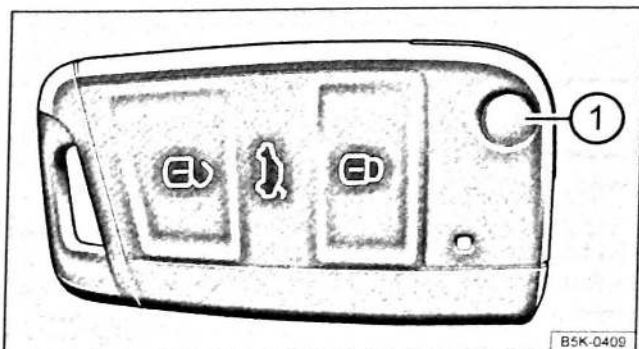
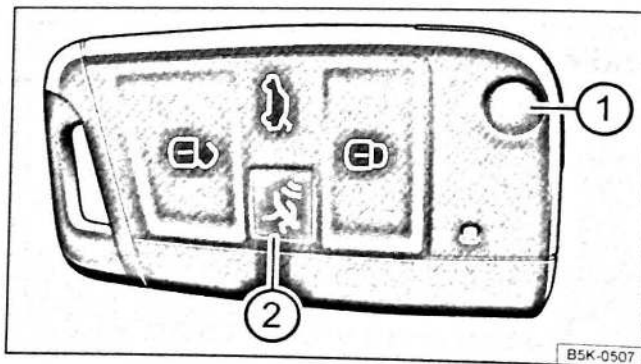

Fig. 22 Vehicle key
Fig. 23 Vehicle key with alarm button
Press button ⇒ Fig. 22 ① or ⇒ Fig. 23 ① to release the key bit and fold it out.
i If the buttons ⇒ Fig. 22 or ⇒ Fig. 23 on the vehicle key or one of the central locking buttons ⇒ page 46 are pressed repeatedly within a short period of time, the central locking system will switch off briefly to prevent overloading. The vehicle will then be unlocked. Lock the vehicle if necessary.